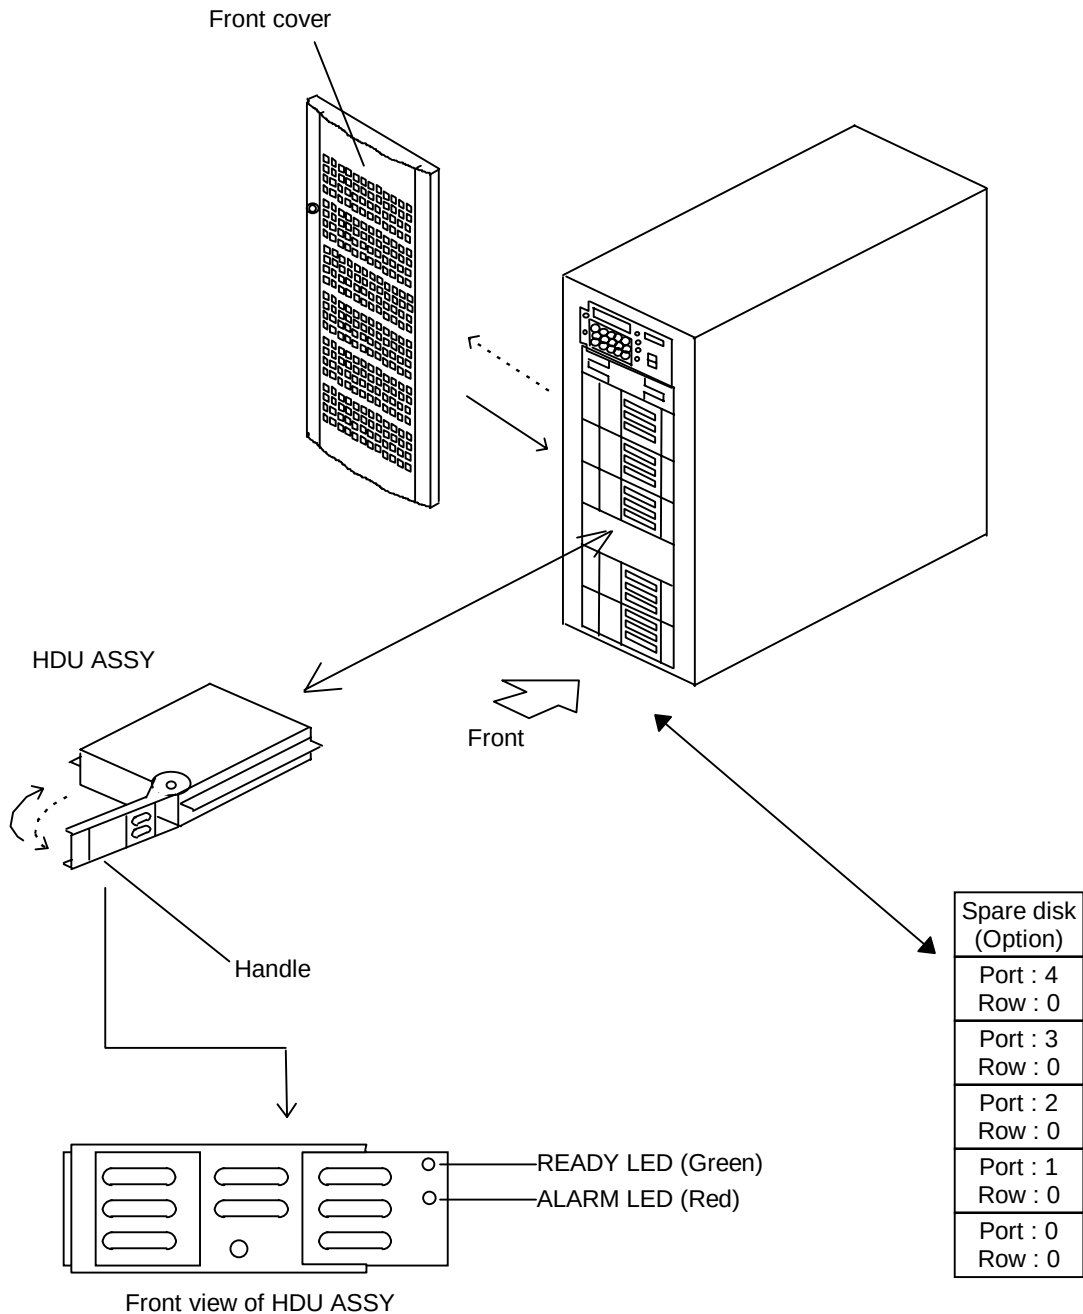

Figure 2.8.1 Installing the HDU ASSY
- (2) Open the front cover.
(3) Remove the old HDU ASSY and set the new HDU ASSY. (See Figure 2.8.1 in DH-OPTION0200.)
(4) Set the DIP switches 1, 4, 5, 6 and 7 on the CTL ASSY to down.